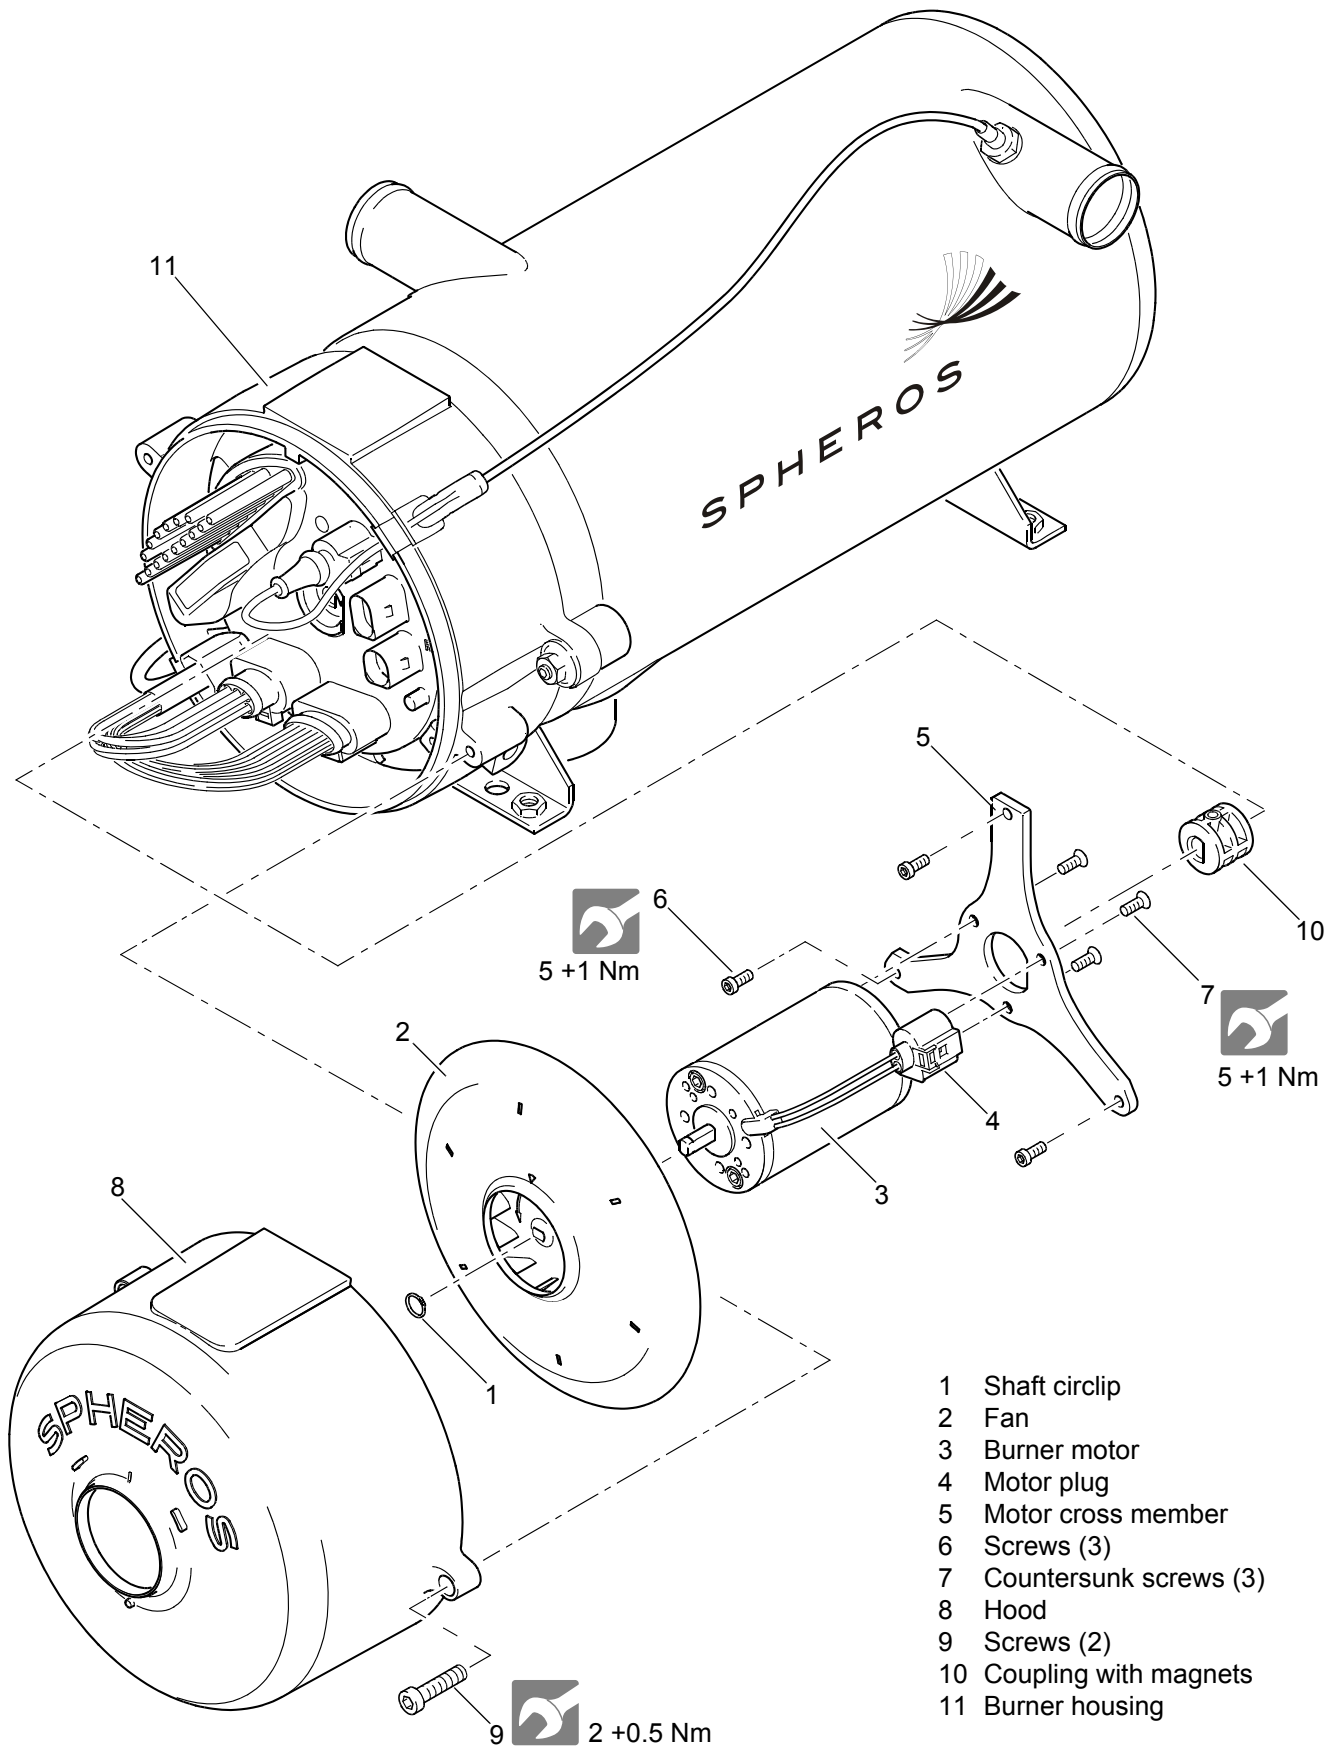

Fig. 803 Combustion air fan removal and installation
2. If applicable, remove the fan (2, Fig. 803). For this purpose remove the shaft circlip (1) from the motor shaft using suitable pliers.
3. Disconnect plug (4) of the burner motor from the control unit.
4. Remove screws (6) and pull motor (3) including the motor cross member (5) off the burner housing.
5. If necessary, remove motor cross member (5) from the burner motor (3). For this purpose loosen and unscrew screws (7) from the motor flange.
1. If necessary, reconnect the burner motor (3, Fig. 803) to the motor cross member (5). For this purpose align the burner motor with the motor cross member. Observe the motor cross member installation position. Screw the countersunk screws (7) into the dedicated recesses of the motor flange. Next tighten the countersunk screws (7).
2. If necessary, slide the coupling with magnets (10) onto the fuel pump shaft.
3. Align motor cross member (5) with the burner housing (11) observing the specified installation position of the motor cross member. Align the burner motor with the coupling by turning the burner motor shaft.
4. Secure burner motor and motor cross member with screws (6).
5. Tighten screws (6).
6. Connect plug (4) of the burner motor with the control unit.
7. If applicable, install the fan (2). For this purpose slide the fan onto the motor shaft and, using suitable pliers, secure a new shaft circlip (1) onto the motor shaft.